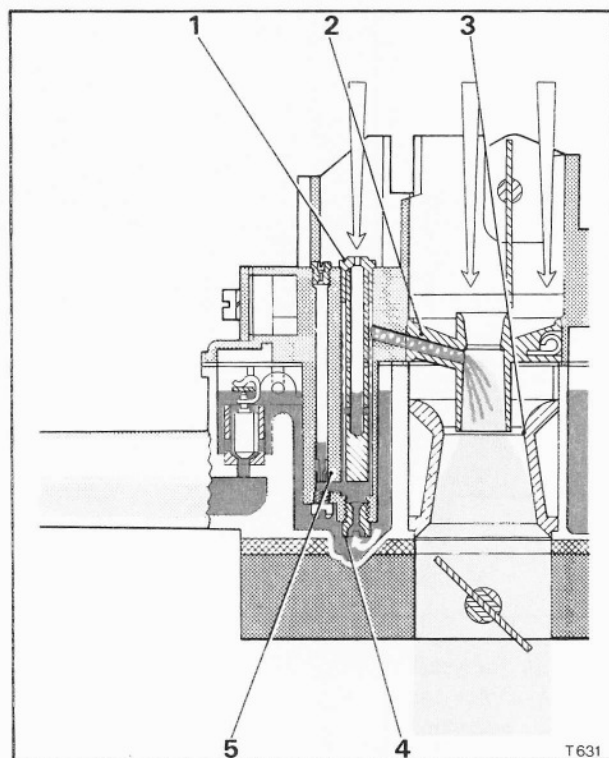

Fig. K54 Primary stage
Fuel is drawn from the float chamber through the primary stage main jet into the mixing tube housing (see Fig. K54, item 5) up to the predetermined level. Air enters through the air correction jet and mixes with the fuel, the depression in the mixing chamber (item 3) then draws this mixture out through the discharge branch (item 2).